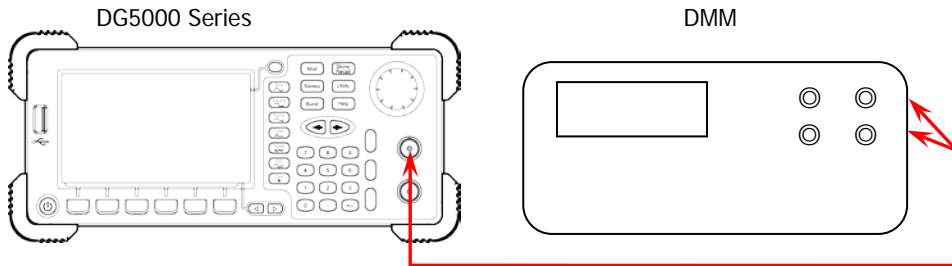

Figure 2-4 Connect DG5000 and the Digital Multimeter
1. Make sure that DG5000 has been warmed up for at least 30 minutes. Connect the channel output terminal (take CH1 as an example; the calibration method is also applicable to CH2) of DG5000 with the voltage input terminals of the digital multimeter using the BNC - dual banana cable as shown in Figure 2-4.